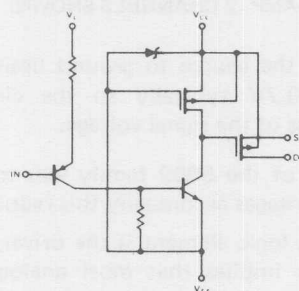

FIGURE 1. DG118 (ONE CHANNEL)
The DG111 through DG125 grouping has a bipolar driver and a P-MOS monolithic output stage, with up to six (6) independent MOSFETs on each chip (Fig. 1). These are enhancement mode MOSFETs and are turned off with no power applied. The range of switching is  $\pm 10\text{V}$  with +20V and -10V power supplies. Typical  $R_{DS(on)}$  is  $70\Omega$  for +10V signals,  $150\Omega$  for low level signals and about  $300\Omega$  for -10V signals. Notice the switch does not show a constant impedance as signal level is varied. To minimize this modulation effect by the signal, these parts should work into relatively high load resistances (i.e.,  $R_L \geq 10K\Omega$ ).